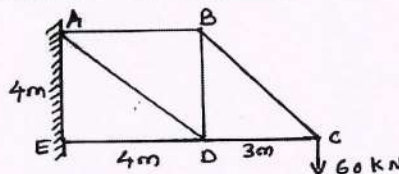

Fig Q6
- 6 Determine the vertical deflection at the free end of the truss shown in Fig Q6, using unit load method. The cross sectioned areas of members AD and DE are 1500 mm^2 , while those of other members are 1000 mm^2 . Take $E = 200 \text{ kN/mm}^2$.